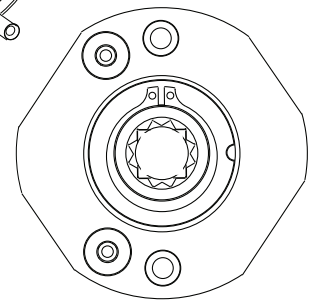

Figure 5-5Q
2. Align adapter plate hub with square hole in lever; keeping hub as tight as possible. (Figure 5-5Q)